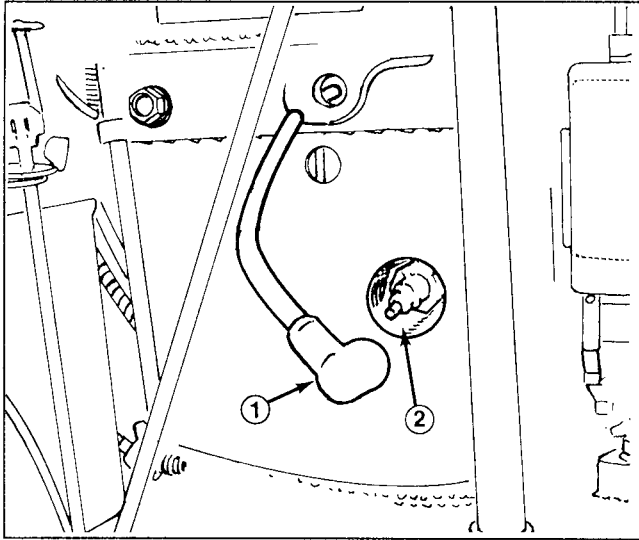

Figure 8
To prevent accidental starting of the engine while performing maintenance, shut engine off, remove key from ignition switch and pull wire off spark plug (Fig. 8). Make sure wire does not contact plug accidentally.
2. Stop engine and pull wire off spark plug (Fig. 8).